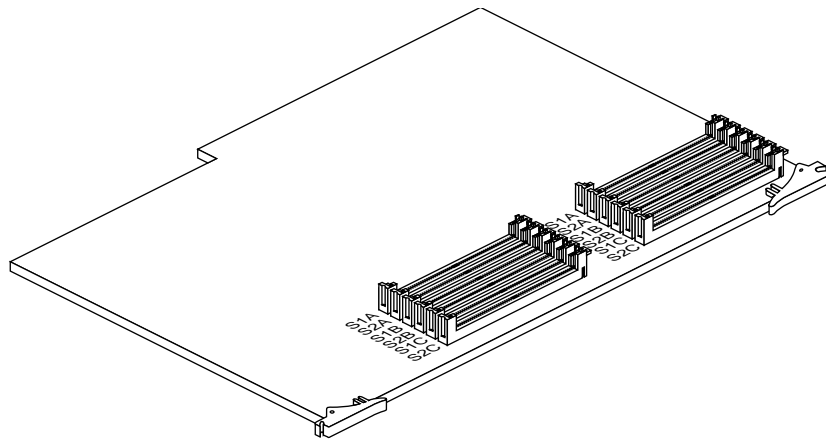

Figure 3-8 Orienting Yourself to the CPU Board
- Orient yourself to the CPU board, as shown in Figure 3-8.